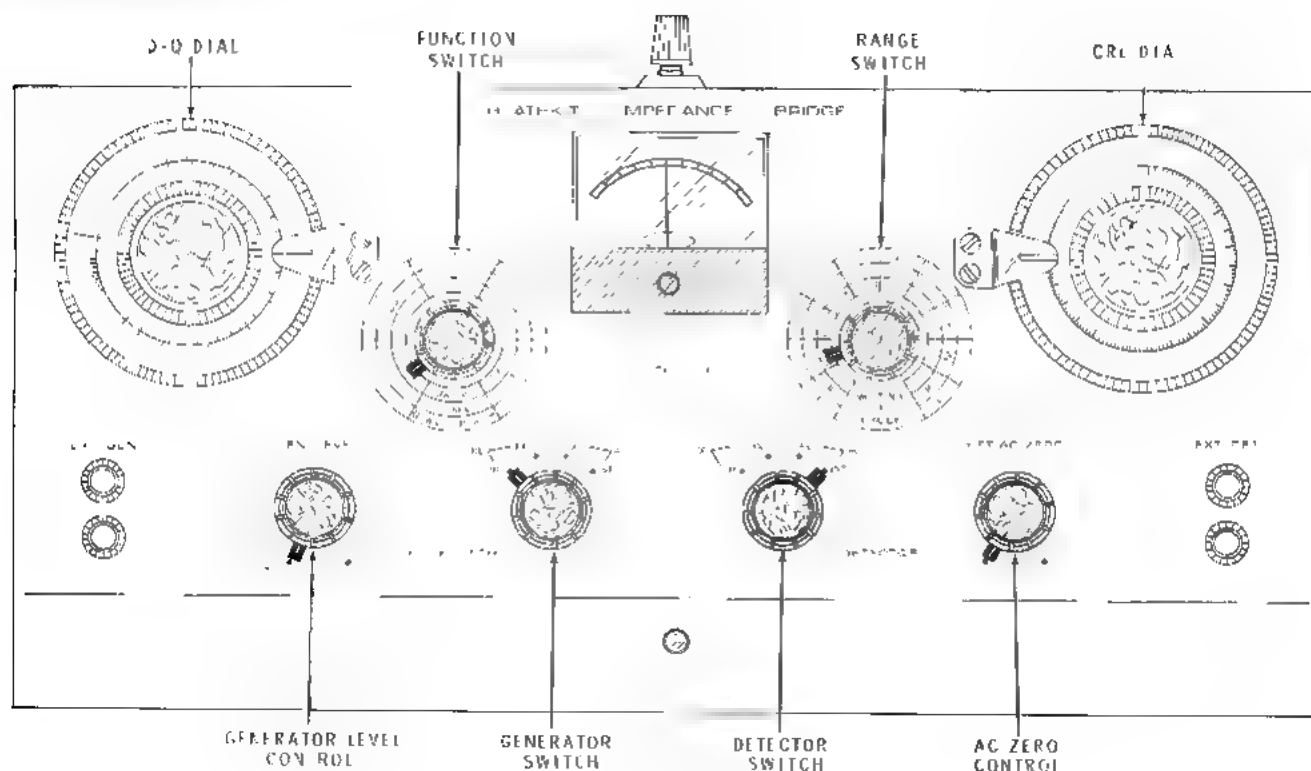

Figure 19
- () Press knobs firmly onto the control bushings with the white index marks of the knobs positioned to agree with the knob index marks shown in Figure 19.